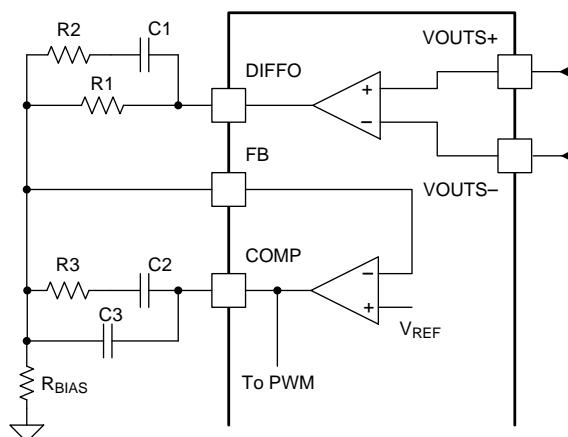

Figure 33. Output Voltage Setting
The TPS544x25 devices implement a differential remote sense amplifier to provide excellent load regulation by cancelling IR-drop in high current applications. The VOUTS+ and VOUTS- pins should be kelvin-connected to the output capacitor bank directly at the load, and routed back to the device as a tightly coupled differential pair. Ensure that these traces are isolated from fast switching signals and high current paths on the final PCB layout, as these can add differential-mode noise. Optionally, use a small coupling capacitor (1-nF typical) between the VOUTS+ and VOUTS- pins to improve noise immunity. The output of the differential remote sense amplifier (DIFFO) is used for output voltage setting and error amplifier frequency compensation local to the device as shown in Figure 33.
A voltage divider from the DIFFO pin to the FB pin is typically required to set the nominal output voltage like the one formed by R1 and R_{BIAS} resistors shown in Figure 33. To allow PMBus devices to map between the commanded voltage and the voltage at the control circuit input (V_{OUT} divided down to match a reference voltage), the device uses the VOUT_SCALE_LOOP command.
- $V_{OUT_SCALE_LOOP} = R_{BIAS}/(R_{BIAS}+R1)$ (as shown in Figure 33) (1)